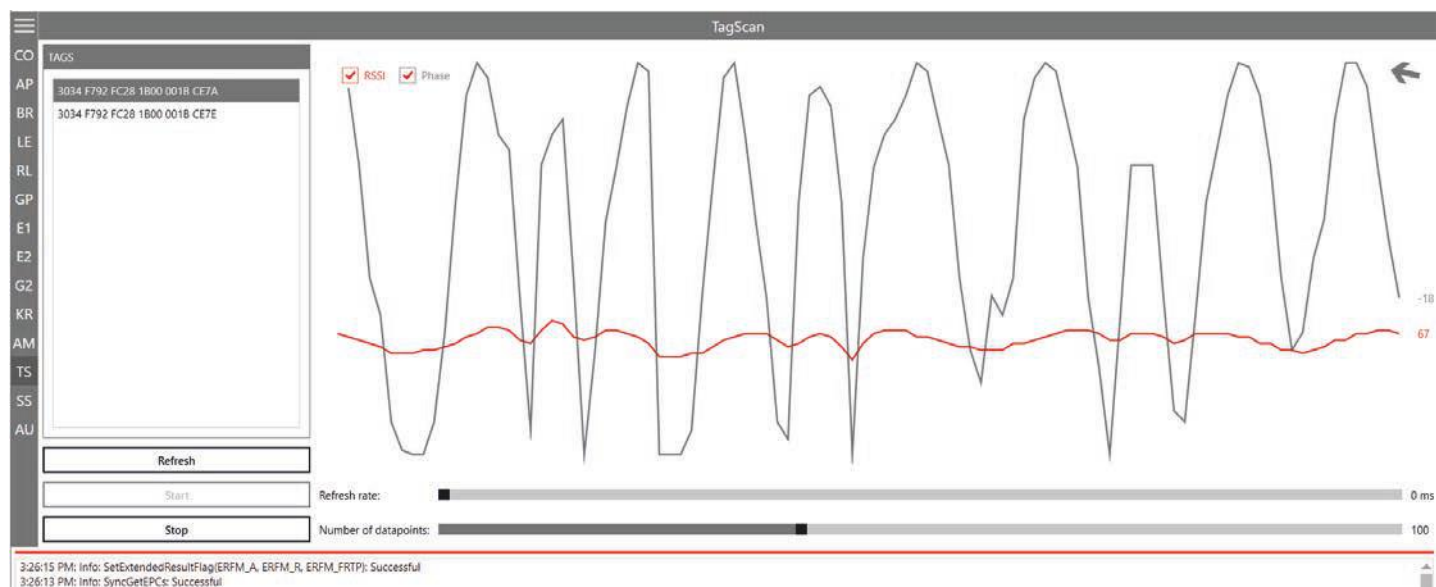

Fig. 71: TagScan: phase shift, transponder is moved
①	ETSI	selects the frequency area
②	Antenna 1-n	selects an antenna from the drop-down menu
③	Start	starts SpectralScan
④	Stop	stops SpectralScan
⑤	Reset maxima	resets maxima
If there is more than one reader, spectral scan shows which channels might be occupied by other readers. In Fig. 71, p. 104, the channels 4, 10 and 13 are occupied by other readers. If the user is not satisfied with the reading results and the interferences keep occurring, it is possible to deactivate channels on which the interference occurs (4, 10 and 13) and only activate the channel that is free (7) to achieve better reading results, see ⑩ in Fig. 49, p. 85.